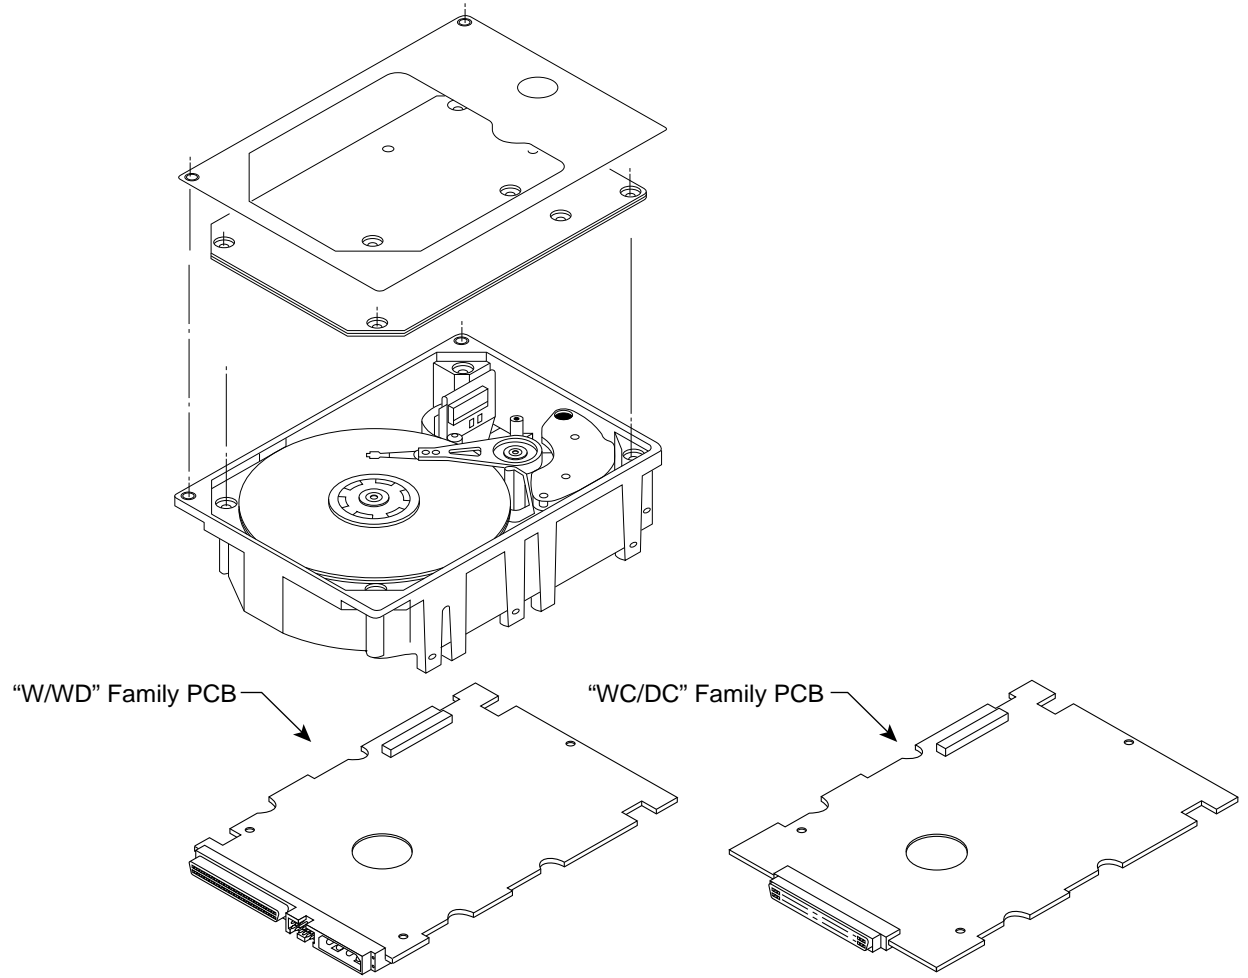

Figure 3.0-1. Hawk 4 family (wide) drive
* 68 pin SCSI I/O and 4 pin direct current power connector shown as used on "W" and "WD" models. "WC" and "DC" drive models have a single 80 pin connector that contains both SCSI I/O and direct current power (see Figure 3.0-1).
Refer to Figure 3.0-1 for an exploded view of the drive. NEVER disassemble the Head/Disc Assembly (HDA). This exploded view is for information only. Do not attempt to service items in the sealed environmental enclosure (heads, media, actuator, etc.) as this requires special facilities. The drive contains no parts replaceable by the user. The drive warranty is voided if the HDA is opened.